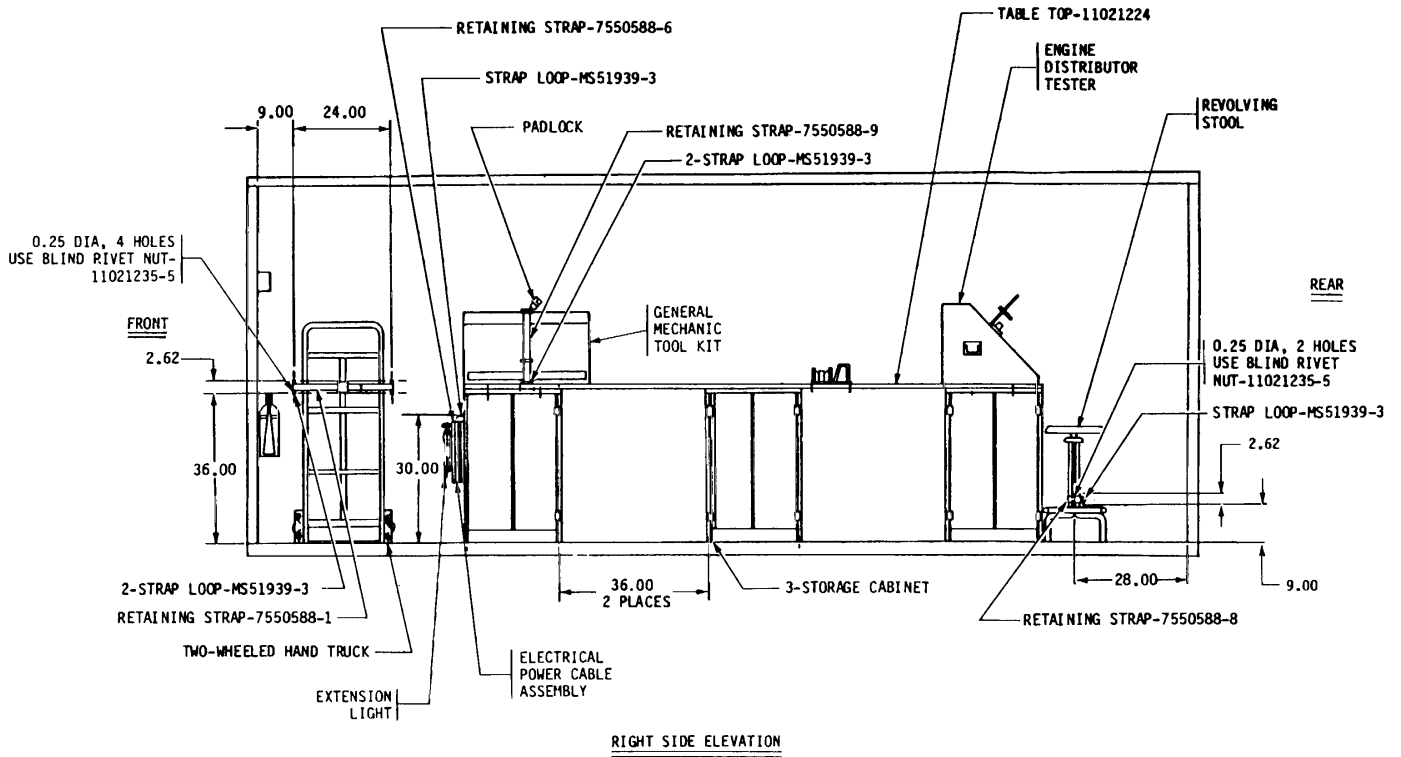

Figure 16. Components to be Mounted, unit 2, ISO-2-1, Right Side Elevation.
a. Mark and drill twelve 0.25-in. diameter holes in right side and front wall in accordance with figures 16 and 18. Install twelve #10 blind rivet nuts (11021235-5).
c. Install three strap loops (MS51939-3) over installed #10 blind rivet nuts on right side wall in accordance with figure 16. Secure strap
(10) Position strap loop (MS51939-3) on storage cabinet wall in accordance with figures 16 and 18. Using strap loop as a template, mark and drill two 0.22-in. diameter holes in storage cabinet wall. Secure strap loop (MS51939-3) to storage cabinet wall, using two #10 x 1/2-in. counter- sunk head machine screws (MS35190-271), two #10 lockwashers (MS35338-43), and two #10 hex nuts (MS35649-202).